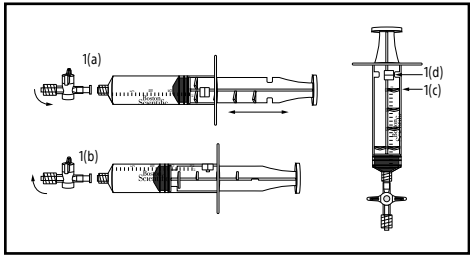

Figure 1.
- Examine the stopcock (Figure 1(a)). The stopcock has two luer connections to attach to the needle and syringe. Air can be exchanged with the stopcock in the open position. The stopcock is open when it is aligned parallel to the syringe; it is closed when perpendicular to the syringe (as shown).
- Examine the syringe (Figure 1). The syringe barrel has one stop pin (Figure 1 (d)) and the syringe plunger has four locking fins (Figure 1(c)). The syringe plunger can be maneuvered within the syringe barrel to lock and unlock the syringe. To lock the syringe, pull back on the plunger until it aligns with the desired suction volume (Figure 1(a)). Turn the plunger clockwise so that the locking pin engages with the locking fins on the plunger (Figure 1(b)). Turn the plunger counterclockwise to release.
- Prepare device, supplied syringe, and stopcock as previously noted. Rotate the stopcock to the closed position, perpendicular to the syringe. Pull the syringe plunger to the desired volume and use the locking fins and stop pin on the syringe to secure the plunger in place. (Figures 1(c) and 1(d)).
Note: The locking fins and stop pin (Figures 1(c) and 1(d)) will have to be disengaged in order to pass air from the syringe.